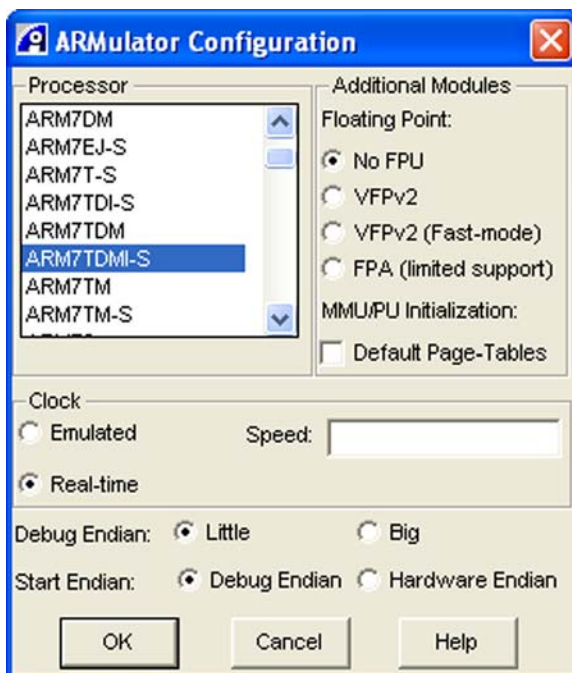

Figure 5-61. ARMulator Configuration Dialog Box
4. The ARMulator Configuration dialog box appears. Select the **ARM7TDMI-S** processor, as shown in Figure 5-61. Click **OK** to return to the Connection Control dialog box.